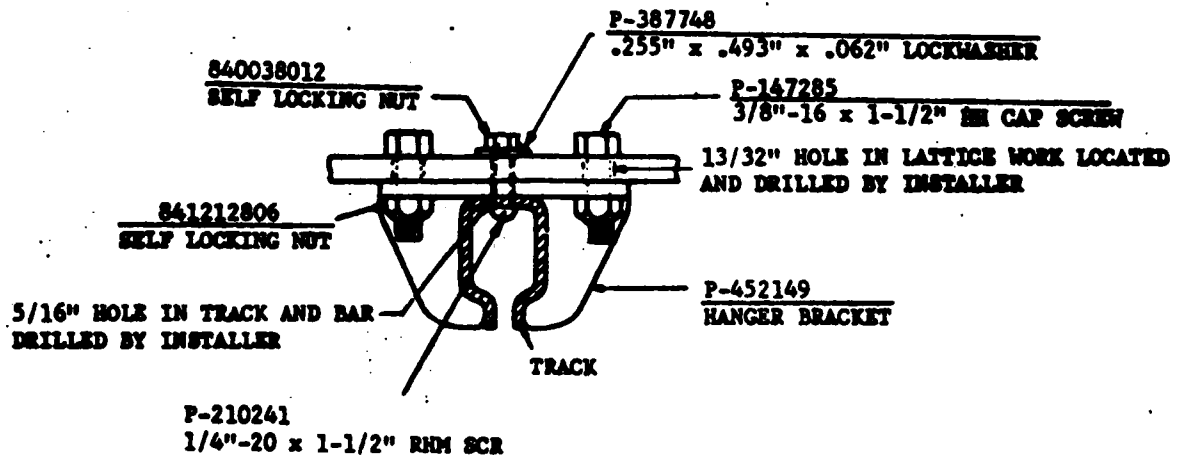

FIG. 19 TRACK SUPPORTED FROM LATTICE WORK (PARS. 4.314 AND 5.51) (BSP 800-614-159 FIG. 19)
5.51 Tracks shall be supported from lattice work in accordance with Figure 19.